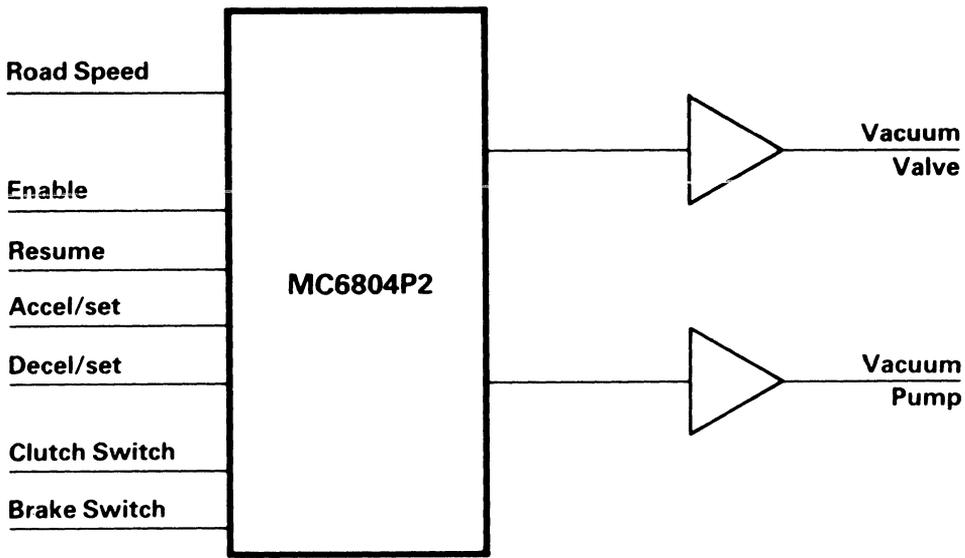

Figure 6.4. Cruise Control
6.2.4 Cruise Control (Fig. 6.4)